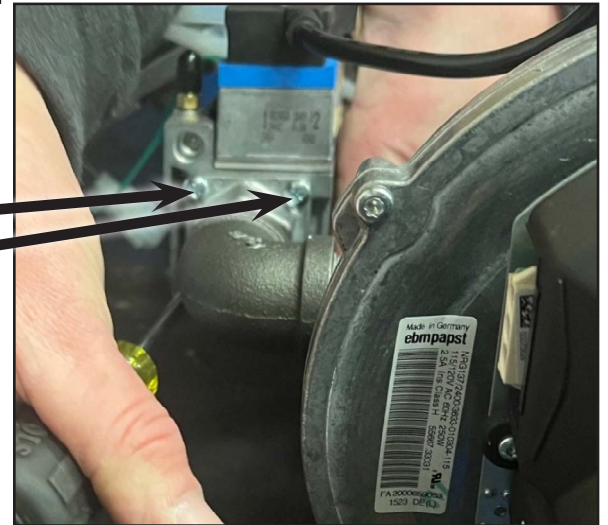

Fig. 44
12. Remove and retain fasteners from gas control flange closest to the blower (Fig. 44). Four additional fasteners are provided in case some are lost or damaged.